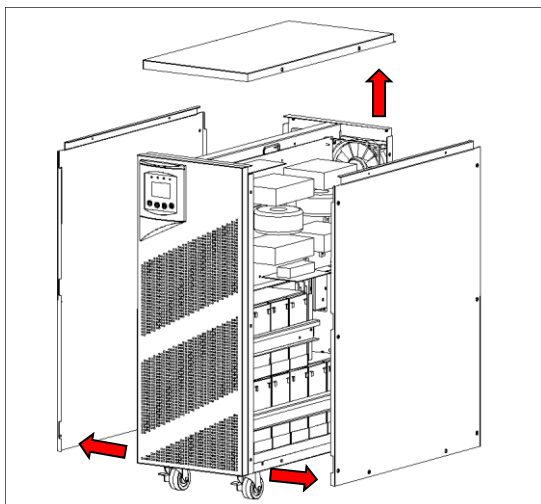

Fig. 3.2
STEP 2: Pull top cover upward first, and open both side covers as shown in Figure 3.2.